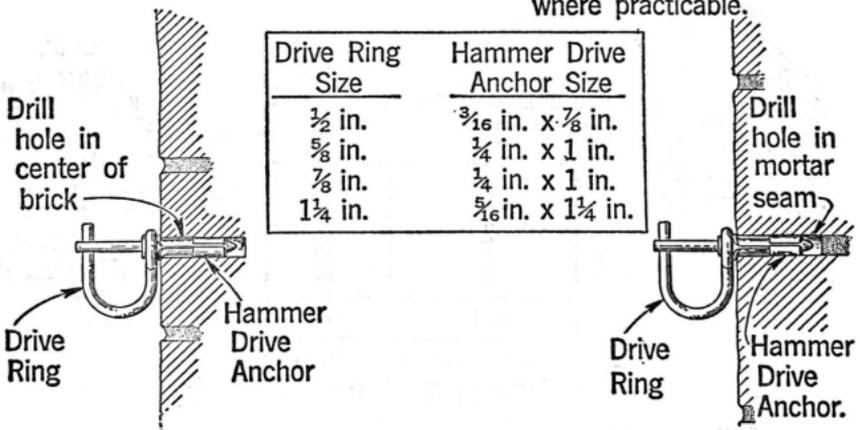

Fig. 1
3.02 Typical installations of drive rings, wire loops (with suitable D Masonry Fasteners) and bridle rings on various types of wall construction are illustrated in Figs. 1, 2, 3 and 4.